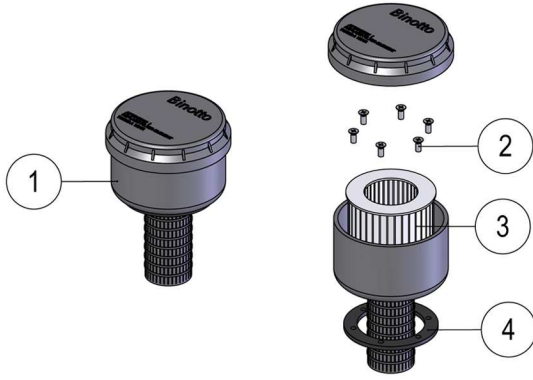

Fig.1
- 1.2 Mount the flat rubber seal (see ref.4 on Fig.1) on the air breather filter unit;
- 1.3 Place the air breather filter into the tank and mount the n.6 M5 bolts (ref.2 on Fig.1, supplied together the air breather filter);